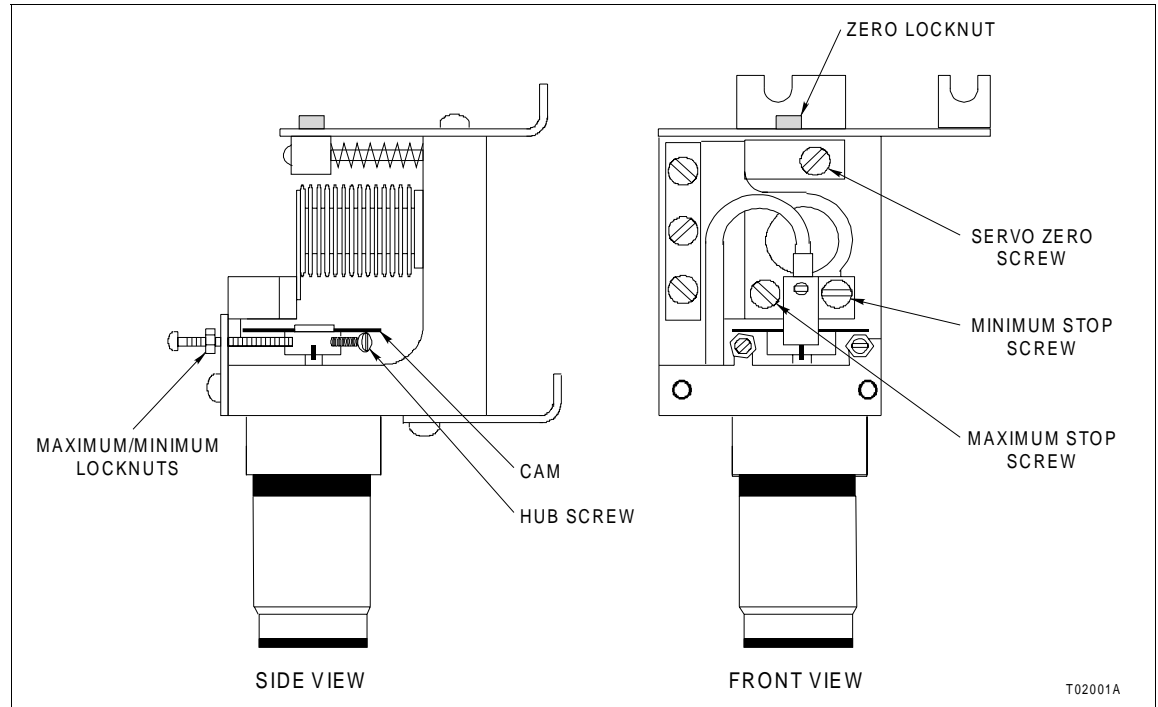

Figure 4-9. Servo Adjustments (AV4)
5. Loosen and back off the minimum locknut. With the **lower** contact closed, rotate the minimum stop screw (clockwise to increase) until a pressure of 13.8 to 17.0 kPa (2.0 to 2.5 psig) is obtained. Verify that the hub screw is still in contact with the tip of the minimum stop screw (Fig. 4-9). Tighten the minimum locknut and check the pressure.
7. Loosen and back off the maximum stop screw locknut. With the **raise** contact closed, rotate the maximum stop screw (clockwise to decrease) until the pressure is between 107 to 110 kPa (15.5 and 16.0 psig). Verify that the hub screw is in contact with the tip of the maximum stop screw (Fig. 4-9). Tighten the maximum locknut and check the pressure.
8. If unable to obtain the correct pressures in Steps 5 or 7, close the contact for the problem direction, loosen the zero locknut screw. With the appropriate stop screw positioned at mid-stroke, rotate the servo zero screw (Fig. 4-9) to give the desired pressure. Tighten the zero lockscrew. Repeat Steps 4 through 7.